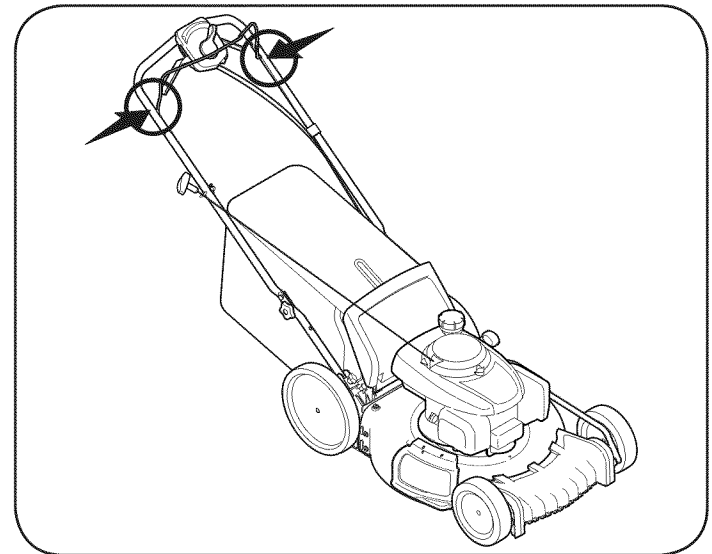

Figure 17
1. Lubricate pivot points on the blade and drive control at least once a season with light oil. These controls must operate freely in both directions. See Figure 17.